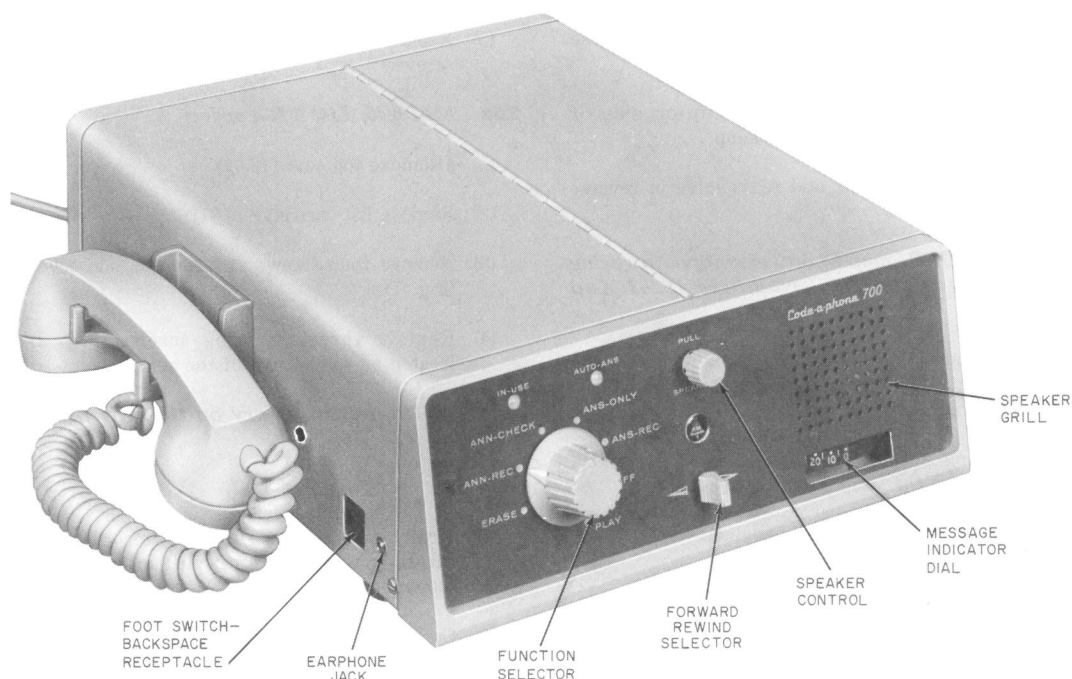

Fig. 1—KS-19245, List 1 Telephone Answering Set
1.02 The KS-19245, List 1 telephone answering set (Fig. 1) has been designed to facilitate maintenance by the use of plug-in assemblies. In general it is not recommended that replacement of component parts of these plug-in assemblies be attempted, since readjustments requiring special equipment and procedures will usually be required.